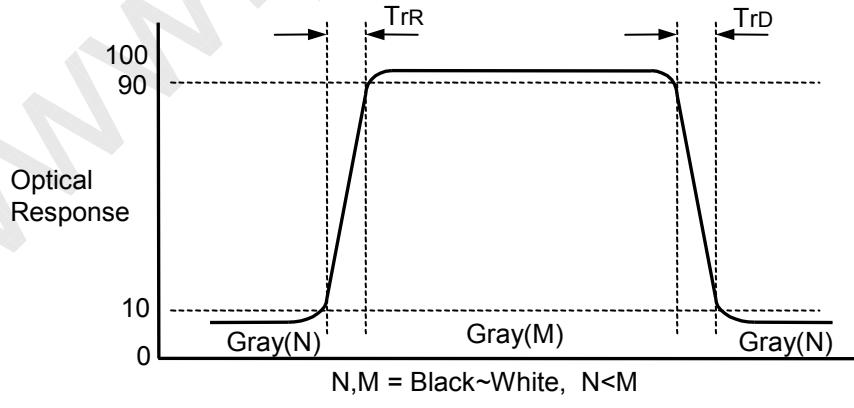

FIG. 3 Response Time
4. Response time is the time required for the display to transit from G(N) to G(M) (Rise Time, T_{rR}) and from G(M) to G(N) (Decay Time, T_{rD}). For additional information see the FIG. 3. ($N < M$)